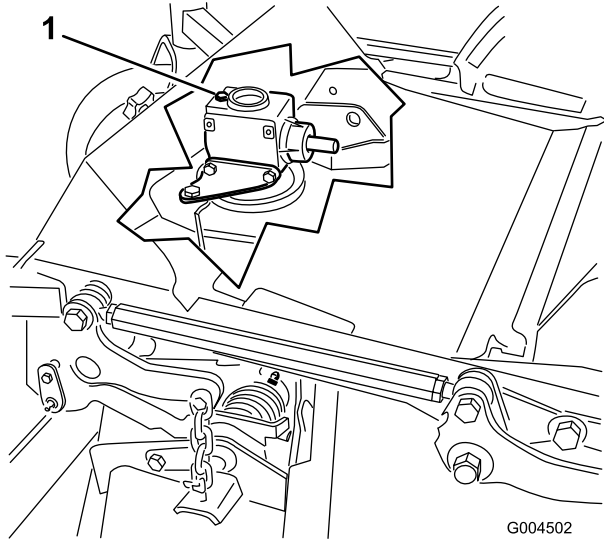

Figure 41
6. Remove the dipstick/fill plug from the top of the gear box (Figure 41) and make sure that the lubricant is between the marks on the dipstick.
6. Remove the dipstick/fill plug from the top of the gear box (Figure 41).